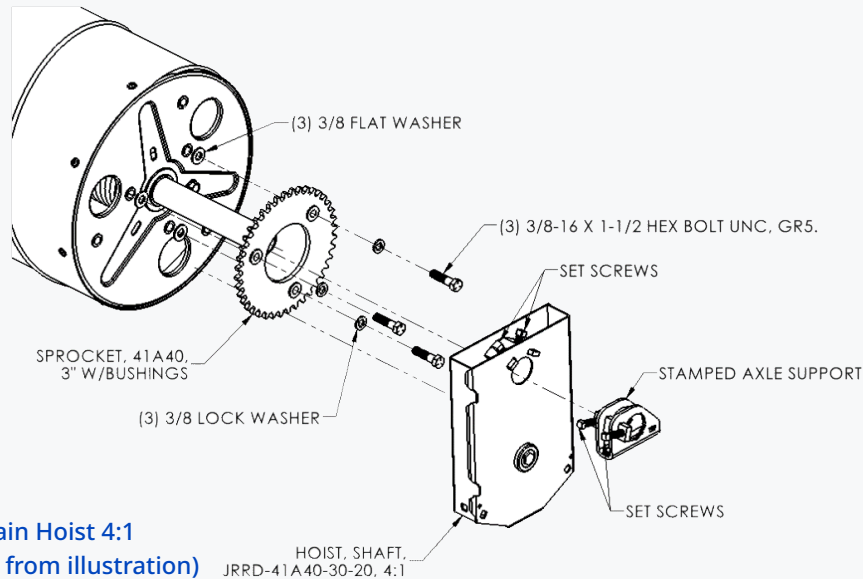

figure 9: Chain Hoist 4:1
- ✦ Attach Sprocket to drum using (3) 3/8" flat washers, (3) 3/8" lock washers, and (3) 3/8-16 x 1-1/2" hex bolts as shown in **Figure 9**.